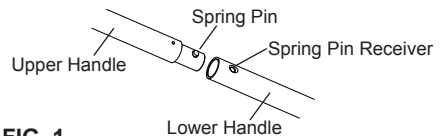

FIG. 1
- Locate the spring pin on bottom end of upper handle and the spring pin receiver on the upper end of lower handle. (Fig. 1).